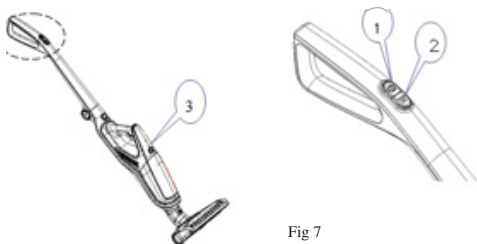

Fig 7
There are two switches including Power switch (1) and Speed control button (2) on the Handle (see Fig.7). Press down the Power switch (1), the motor and rolling brush activate and the appliance starts working, then you can use it for cleaning floor and carpet. If need more powerful cleaning, press the Speed control button (2), and press it again if need less powerful cleaning. To make the appliance stop working, press the Power switch (1) once. Pay attention to the Battery indicators (3) during operation, the Battery indicators will turn off successively as the consumption of battery. And the appliance will stop working when all the Battery indicators extinguish.